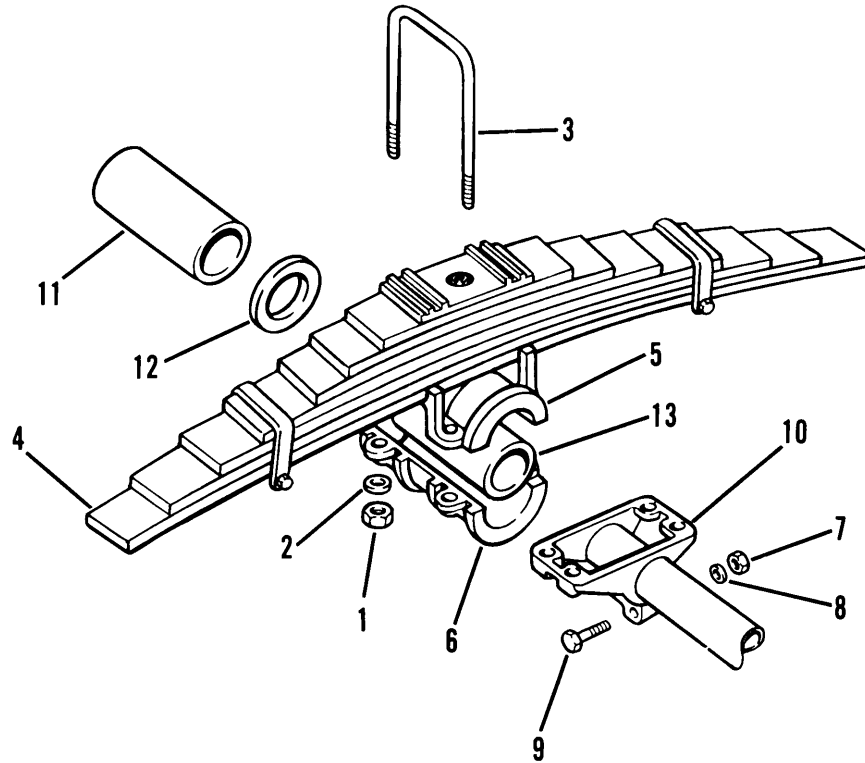

Figure 5-11. Trunnion Tube
- (1) Support both sides of frame.
- (2) Using a suitable lifting device, raise semitrailer slightly.
- (3) Remove four nuts (1, fig. 5-11), washers (2) and two large u-bolts (3) from each set of springs (4).
- (4) Lower semitrailer slightly.
- (1) Clean and lubricate new trunnion tube (13, fig. 5-11).